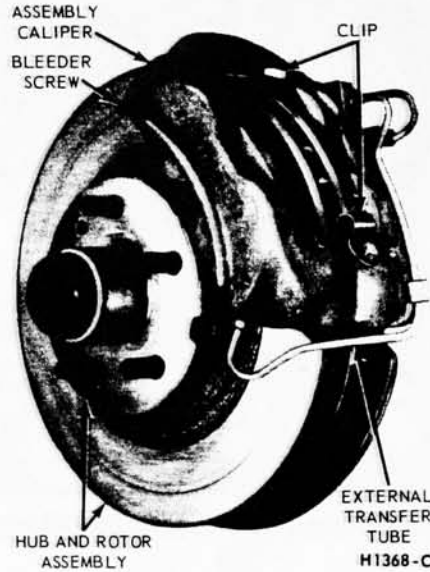

FIG. 3—Disc Brake Assembly
2. Remove the two bolts that attach brake shoe retaining clips shield (Fig. 3).
2. Install the shoe retaining clips and secure to the caliper with two attaching bolts (Figs. 3 and 10).